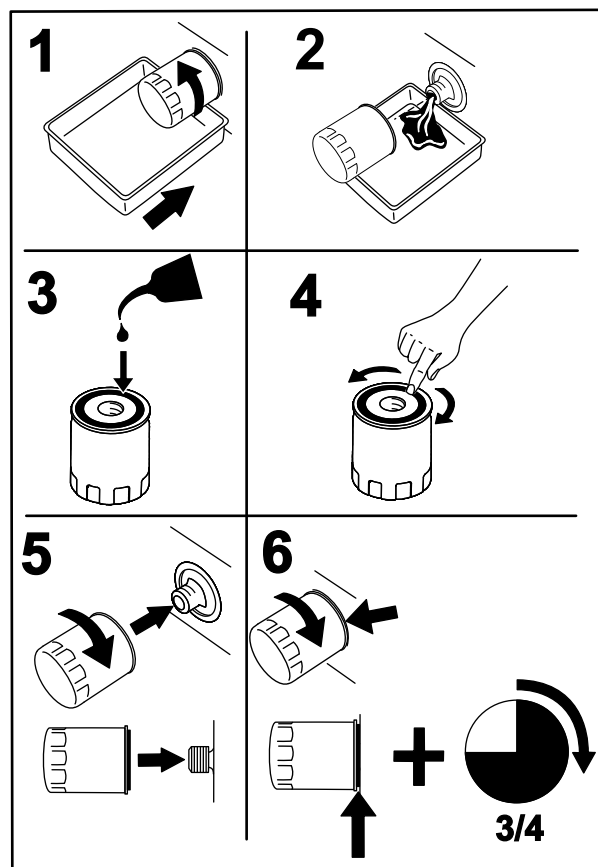

Figure 37
2. Change the engine oil filter (Figure 37).